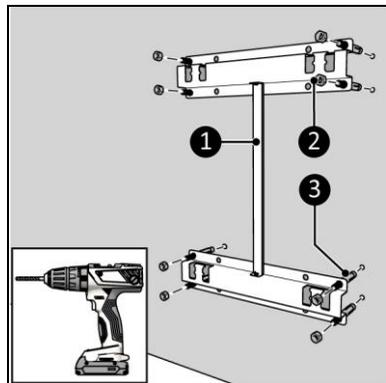

Figure 8
1. Place the bracket against the wall, with the bracket openings at the top, and mark the eight holes (Figure 8).
3. Place the anchor bolts (Figure 8, pos. 3).
4. Tighten the wall bracket (Figure 8, pos. 1) to the wall with the eight nuts (Figure 8, pos. 2).